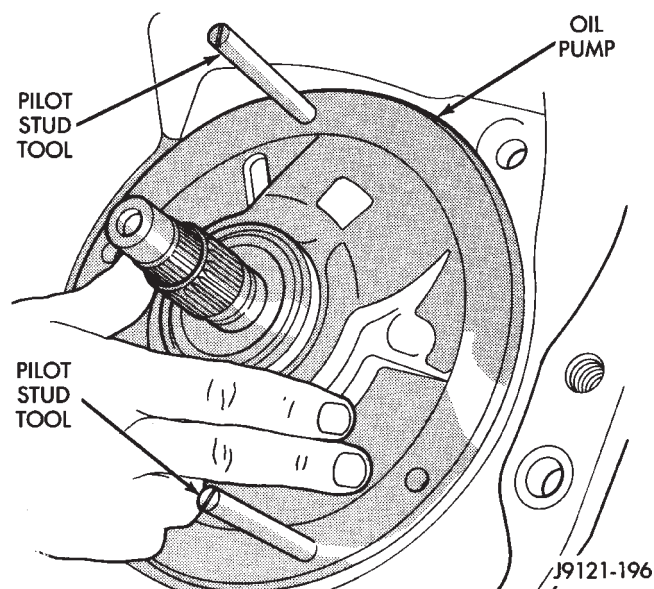

Fig. 153 Installing Oil Pump And Reaction Shaft Support
(10) Lubricate oil pump seals with Ru-Glyde, Door Eze, or transmission fluid.
(11) Install oil pump (Fig. 153). Align and position pump on pilot studs. Slide pump down studs and work it into front clutch hub and case by hand. Then install two or three pump bolts to hold pump in place.
(12) Remove pilot stud tools and install remaining oil pump bolts. Tighten bolts alternately in diagonal pattern to 20 N·m (15 ft-lbs).